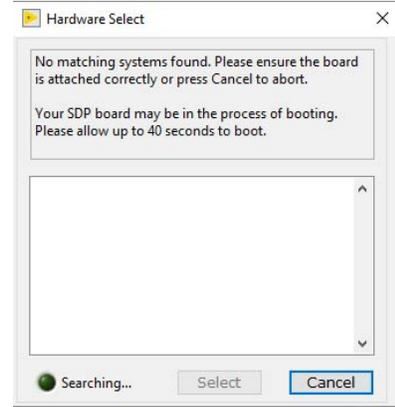
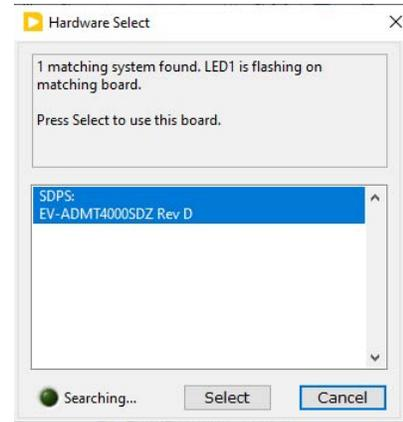

Figure 15. Hardware Select Window That Appears When the GUI Starts Without the EVAL-ADMT4000SD1Z Connected to the PC
Figure 16. Hardware Select Window That Appears When the EVAL-ADMT4000SD1Z Connects to the PC
- ▶ If the EVAL-ADMT4000SD1Z evaluation system is not connected to the USB port via the SDP, the evaluation board name does not display on the front panel. After a few seconds, the **Hardware Select** window appears (see Figure 15). Connect the EVAL-ADMT4000SD1Z evaluation system to the USB port of the PC and wait a few seconds. The **Hardware Select** window then shows the SDP evaluation kits connected to the PC. Select the **EVAL-ADMT4000SD1Z** and click **Select** (see Figure 16).